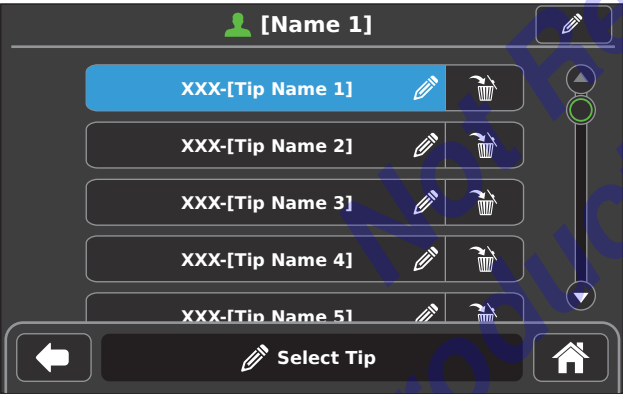

Figure 55 – Select Tip
5. From the SELECT TIP screen, touch to select the desired tip for the preset (Figure 55). Tips are sorted based on the last three digits of the part number. A preset SETTINGS screen will appear to select settings.
8. After all the desired tips are selected and assigned settings for a preset, touch the BACK button or HOME button to exit the SELECT TIP screen (Figure 55).